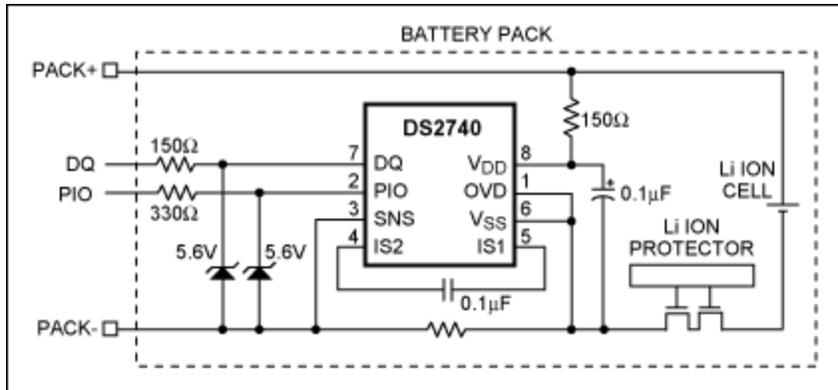

Figure 2. DS2740 installed in battery pack.
**Figure 2** shows a schematic with the DS2740 mounted inside a single-cell Li+ battery pack. The PACK+, PACK-, DQ, and PIO nodes on the left represent the external contacts of the pack. As shown, the DS2740 should be installed on the contact side (as opposed to the cell side) of the protector. This prevents any unwanted charge paths through the DS2740. The protector may be any single cell protector.